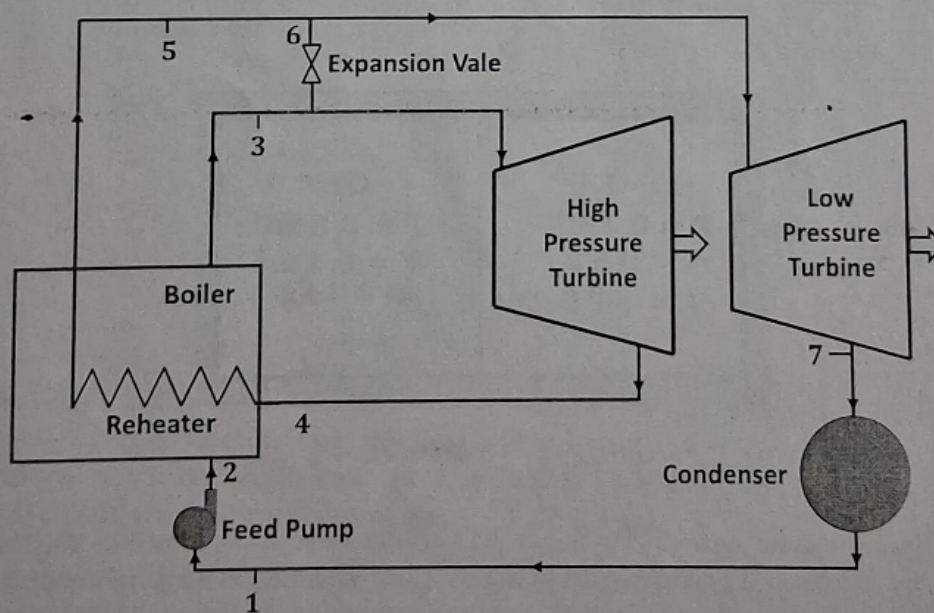

Figure 1
1. In the ordinary operating mode of a 500MW Power plant, as shown in Fig. 1, the expansion valve is closed, and the steam from the boiler passes through the high-pressure turbine to the reheater and into the low-pressure turbine (1 - 2 - 3 - 4 - 5 - 7 - 1). When the high-pressure turbine is out of service, the plant is operated in an emergency mode in which the steam from the boiler is passed through the expansion valve directly into the low-pressure turbine. The modified cycle is now (1 - 2 - 3 - 6 - 7 - 1). Data: $p_1 = 0.04$ bar; $p_2 = 150$ bar; $p_5 = 0.5$ MPa, $x_1 = 0$; $T_3 = 500^\circ\text{C}$; $T_5 = 480^\circ\text{C}$. The isentropic efficiency of the turbines is 0.90, and that of the pump is 0.85. Assume the boiler and reheat unit take heat from a thermal energy reservoir at 600°C and the condenser reject heat to a heat sink of 20°C . Use the data given in the Table 1 for this problem (No data from any steam table is allowed for this problem). [20 Marks]